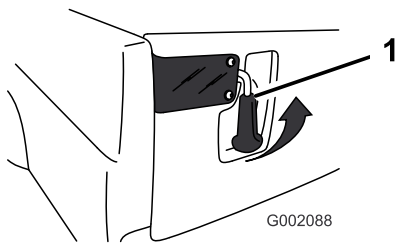

Figure 29
1. To open the tailgate latches, lift the latch handles up (Figure 29). The latches will spring out toward the center of the tailgate. Slowly lower the tailgate.